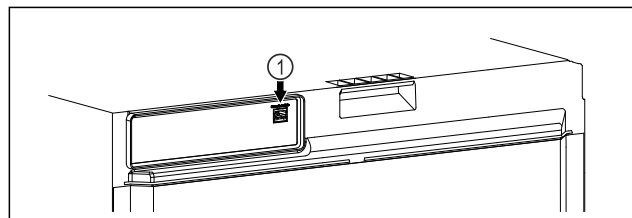

Fig. 142
- SmartModule Fig. 142 (1) has been inserted.